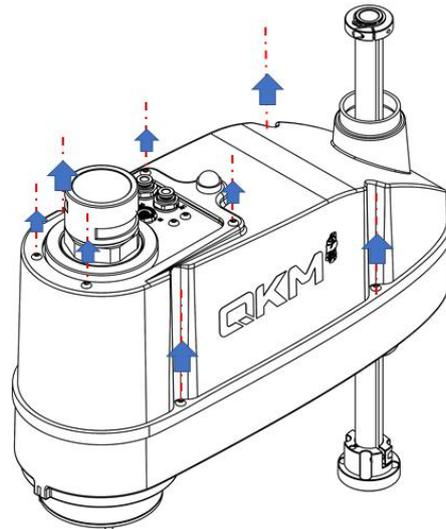

Figure 4-15 Removal of the second mechanical arm shell
Step 2 Use 3 mm Allen wrench to remove the fastening screws from the second mechanical arm shell of the robot, as shown in Figure 4-15.